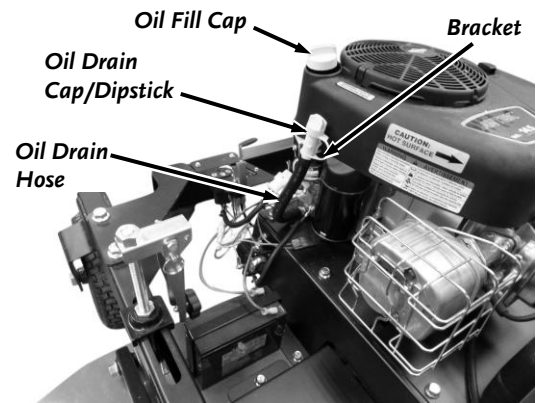

Figure 41
1. Remove the Oil Fill Cap/Dipstick (**Figure 41**).